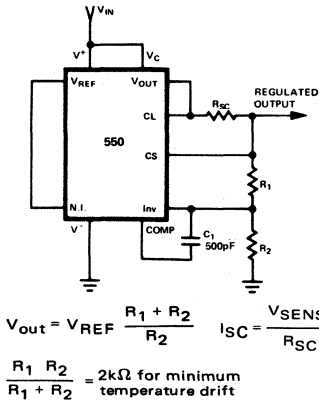

FIGURE 1
1. Unless otherwise specified,  $T_A = 25^\circ\text{C}$ ,  $V_{in} = V^+ = V_c = 12\text{V}$ ,  $V^- = 0\text{V}$ ,  $V_{out} = 5\text{V}$ ,  $I_L = 1\text{mA}$ ,  $R_{sc} = 0$ ,  $C_1 = 100\mu\text{F}$ , and divider impedance as seen by error amplifier  $\approx 2\text{k}\Omega$  when connected as shown in Figure 1.